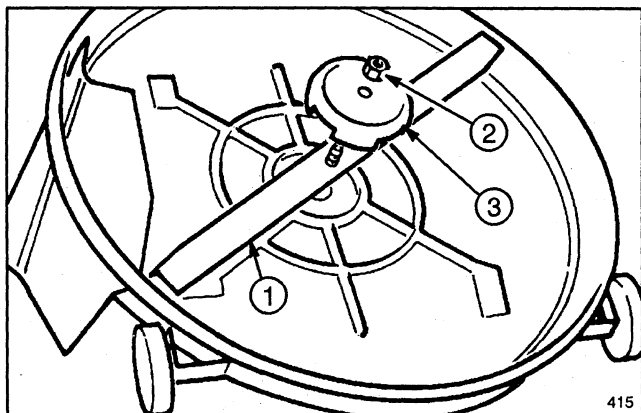
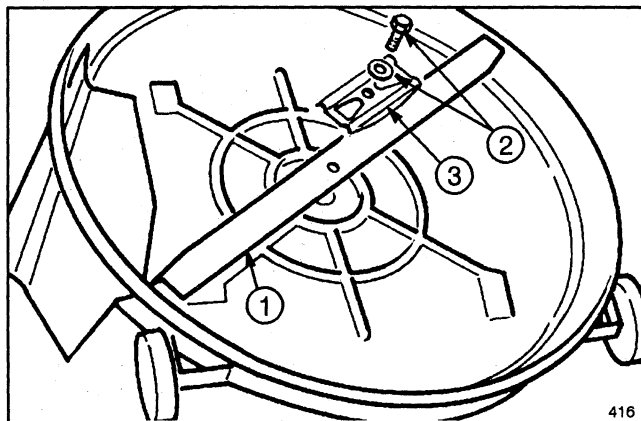

Figure 9
Figure 10
1. Depending on your unit, install in sequence the new blade, anti-scalp cup (if one was on unit), and lock nut (Fig. 9) or the new blade, blade stiffener (if one was on unit), washer and blade bolt (Fig. 10). Tighten blade bolt to 50 ft-lbs.